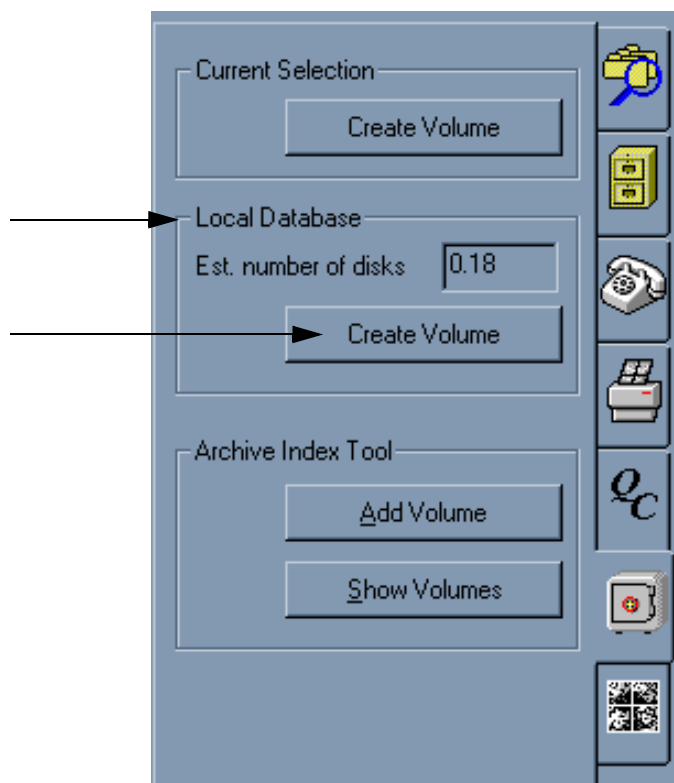

Figure 4-26 Create Volume (Tool tab)
- a.) by clicking the **Local Database > Create Volume** button on the Archive tab to the right of the Data Selector (See Figure 4-26)